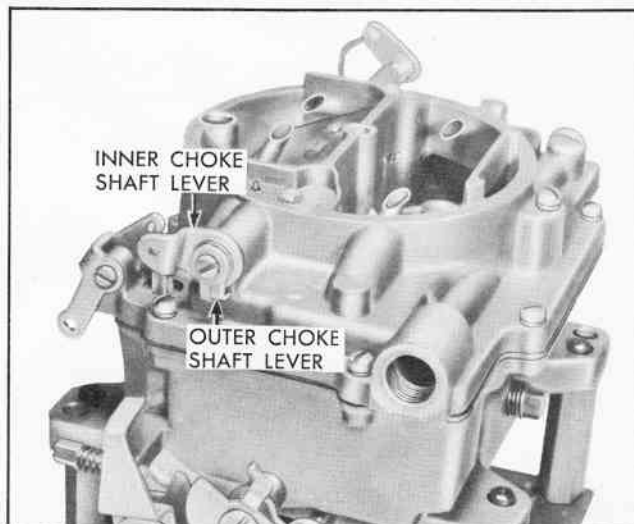

Fig. 25 Choke Shaft Levers Installed
10. Install inner choke shaft lever, washer, and outer choke shaft lever on end of choke shaft (Fig. 25).